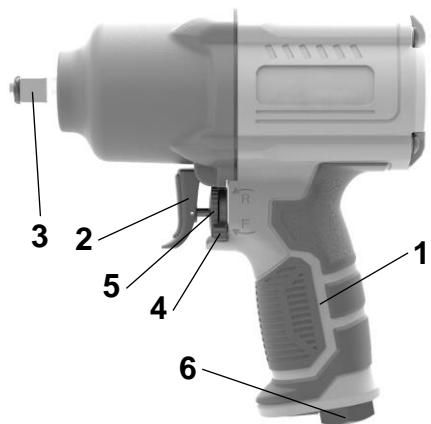

Fig. 1:
Select the necessary interchangeable socket head and install it on the square drive (see Fig. 1, pos. 3). Make sure the attachment is securely fastened on the square drive.
Set the required rotation direction by setting the switch (Fig. 1, pos. 4) to position R for loosening or position F for tightening.
Torque adjustment is also done using the disc switch (Fig. 1, pos. 5). To do this, change the switch position to the desired setting: